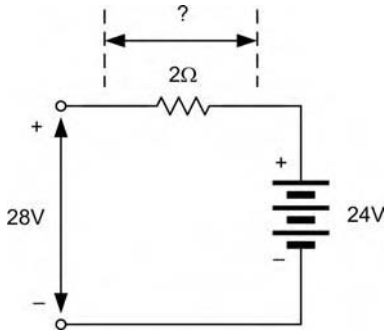

Figure 5.42
5. Determine the unknown voltage in Figure 5.42.